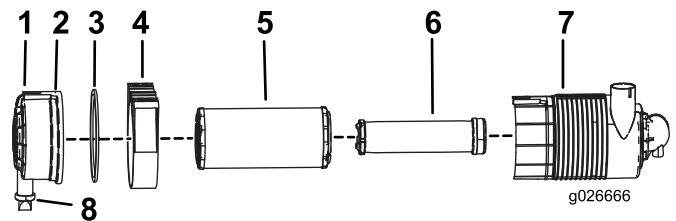

Figure 27
3. Release the latches on the air cleaner, and pull the air-cleaner housing off the air cleaner body (Figure 27).
1. Gently slide the primary filter out of the air cleaner body (Figure 27).